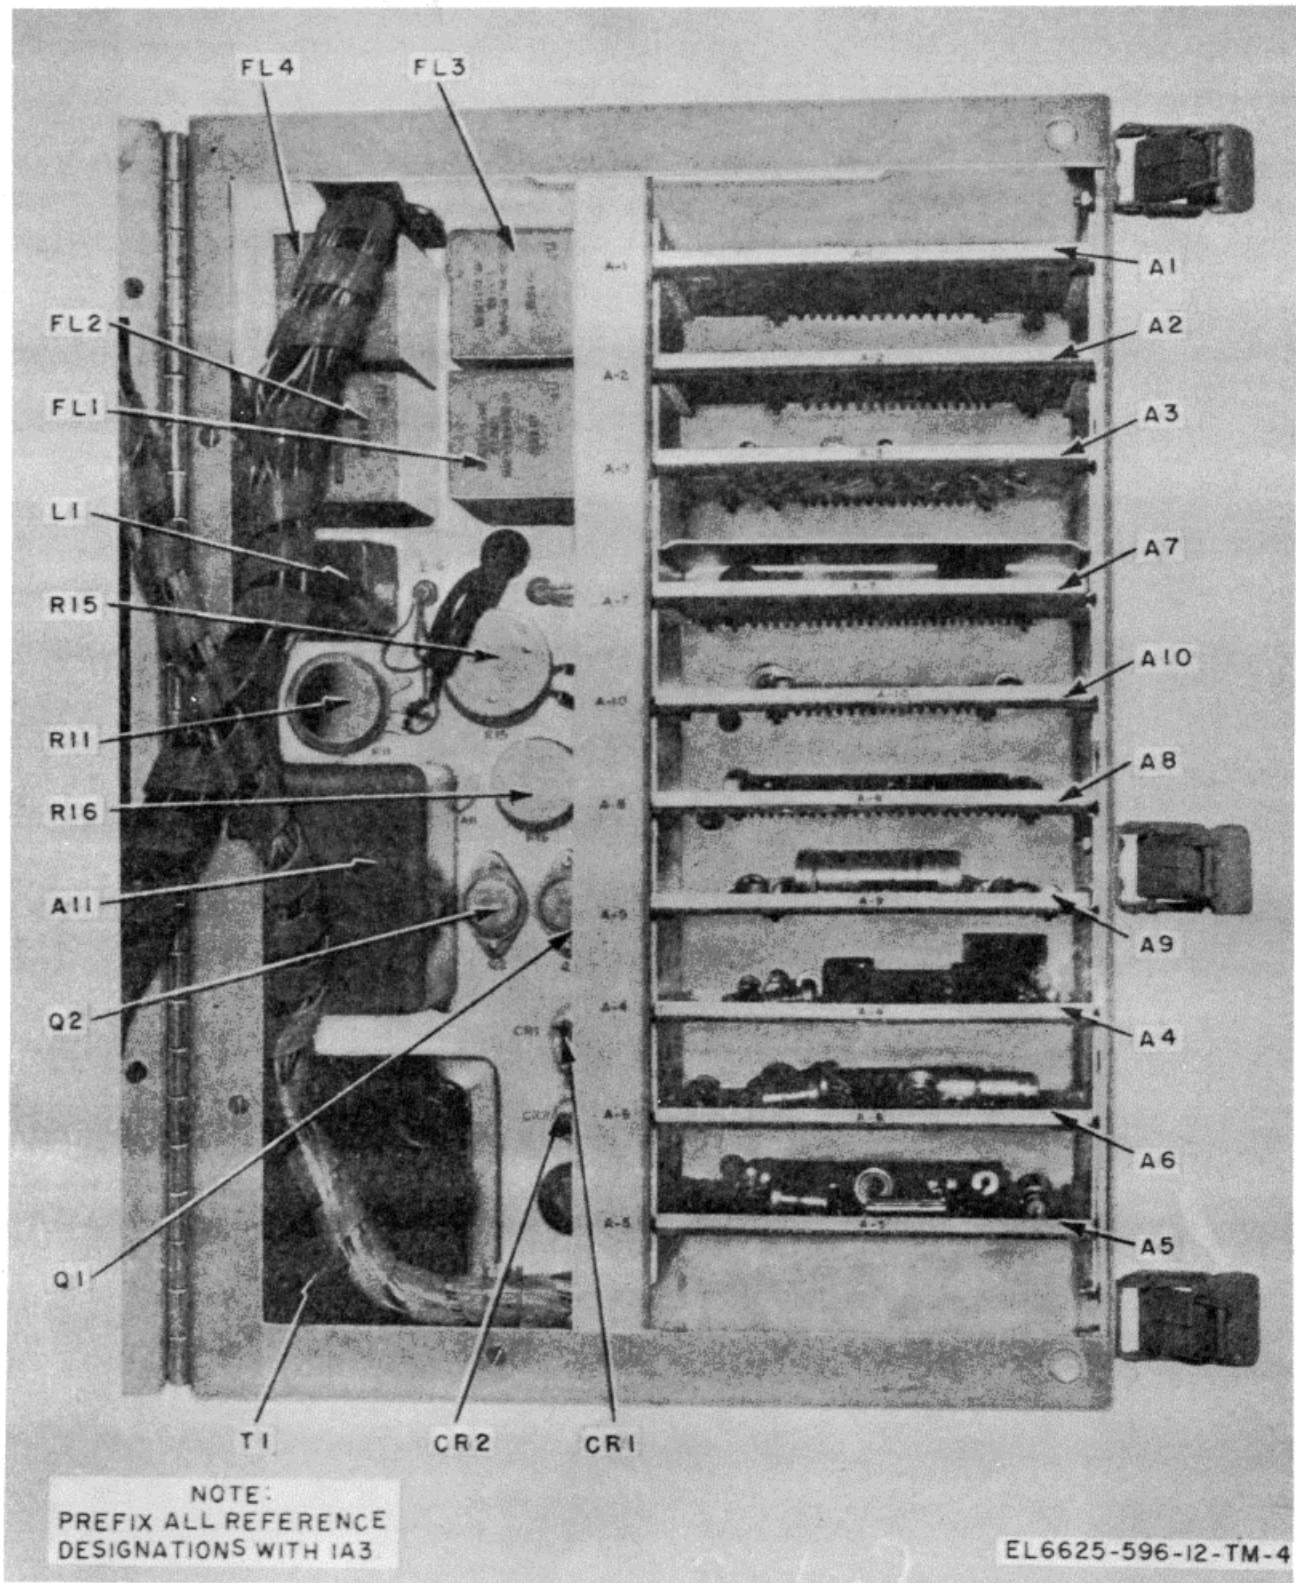

Figure 1-4. Test rack assembly 1A3, front view.
c. *Test Rack Assembly 1A3.* (fig. 1-4). Assembly 1A3 contains the TS716/U electronic circuitry including ten plug-in modules. Assembly 1A3 is permanently attached to panel chassis assembly 1A4 via a piano hinge and laced cabling.
(5) Unlock the three quick disconnect latches on the side of the dual chassis as shown in figure 1-1. Inspect all wiring for breaks or abrasion. Check the actuation of the pushbutton and rotary switches on panel chassis assembly 1A4. Insure that assemblies 1A3A1 through 1A3A10 (fig. 1-4) are properly seated in their sockets in test rack assembly 1A3.